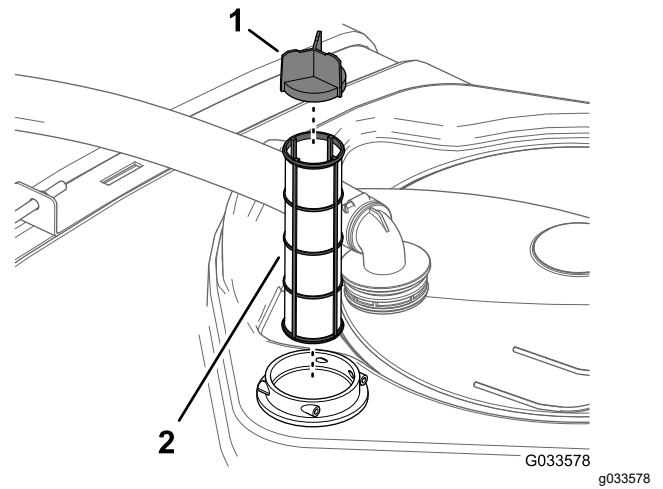

**Figure 58**
2. At the top of the sprayer tank, remove the retainer that secures the hose fitting attached to the large hose from the filter housing (Figure 58).
3. Remove the hose and hose fitting from the filter housing (Figure 58).